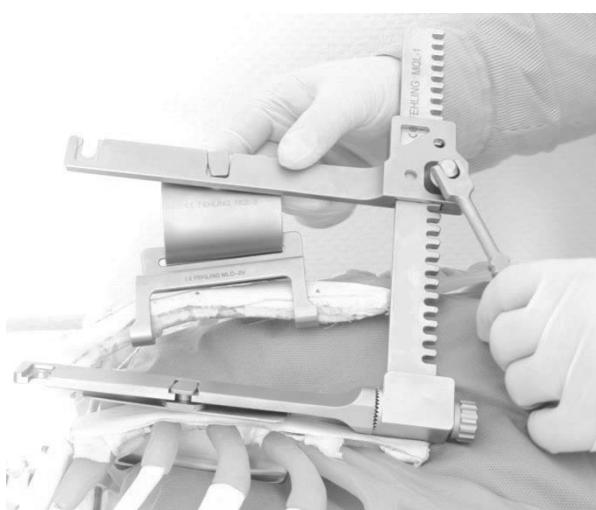

Fig. 14
5. Spread the retractor to the desired exposure of the thorax (Fig. 14).